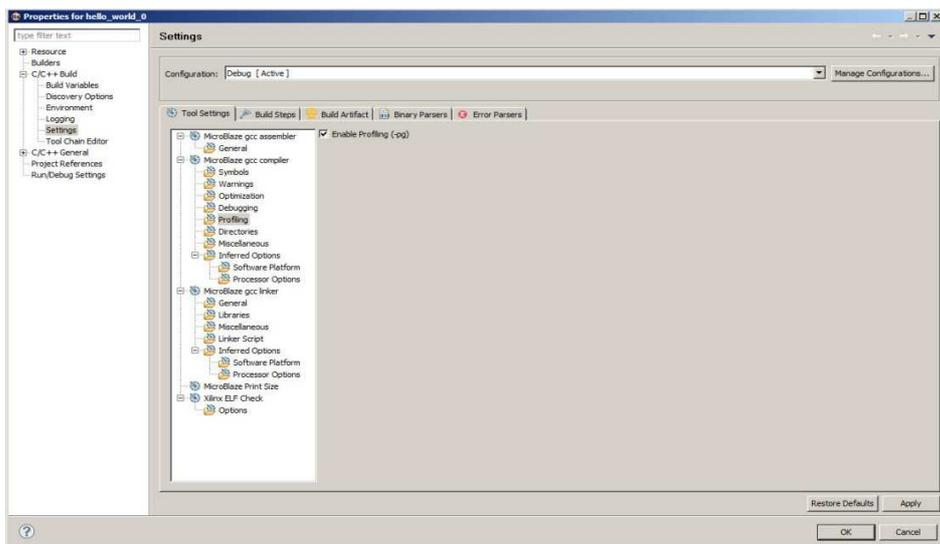

Figure 32. Enable Profiling in Properties for hello\_world\_0 (Step 11)
**Step 11:** Highlight profiling and enable it as seen in Figure 32. A message “Finished building: hello\_world\_0.elf.elfcheck” will be produced in the console.